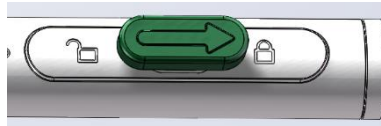

Figure 10 Anti-rotation Knob
- (1) Check the use-by date of the product, and do not use the product if it expires.
- (2) Check the sterile packaging of the product, and do not use the product if it has been opened or damaged.
- (3) Unpack the inner packaging in the sterile area, remove the device from packaging, and check the patency of the push rod and the clamping and deploying performance of the Clamp.
- (4) Check the integrity of the product, and do not use the product if it's damaged. Do not use the product if it falls from a height of 40 cm or more onto a hard surface because the product may be damaged and cannot be operated properly.
- (5) Check whether the Pusher and the Upper Clamp are released or separated, do not use the device if so.
- (6) Check whether the anti-rotation knob (Figure 10) is locked “”.
Rotate the Anti-rotation Knob (Figure 10) to the unlocked state “”, rotate the Small Handle of the Pusher counterclockwise, unscrew the Push Rod, open the Connector to release the Clamp, and then withdraw the Sheath Introducer.